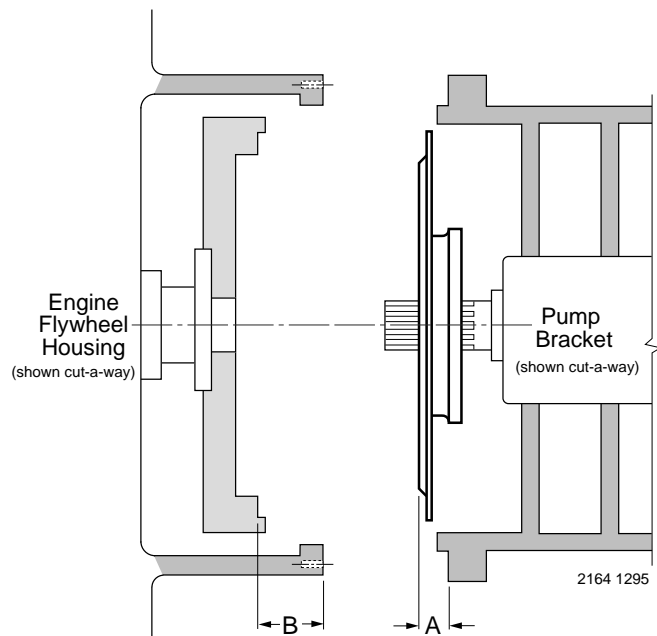

FIGURE 2
- d. Measure the distance from the engine side of elastomeric coupling plate to the mounting face of the pump bracket. Refer to Figure 2, below, Dimension "A".
- e. Measure depth from face of flywheel housing on engine, to face on flywheel against which coupling will be bolted. Refer to Figure 2, below, Dimension "B".